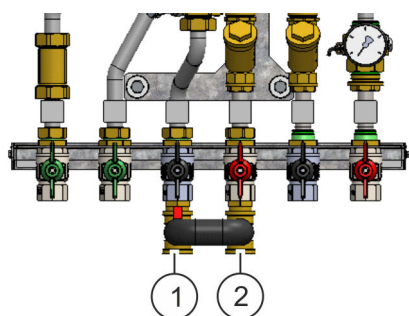

Fig. 32: Opening the ball valve for the heating supply and heating return
Open the primary connection for the heat supply flow line (Fig. 32/2).
8. ➔ Open the primary connection for the heat supply return line (Fig. 32/1).